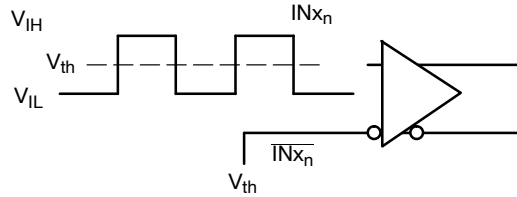
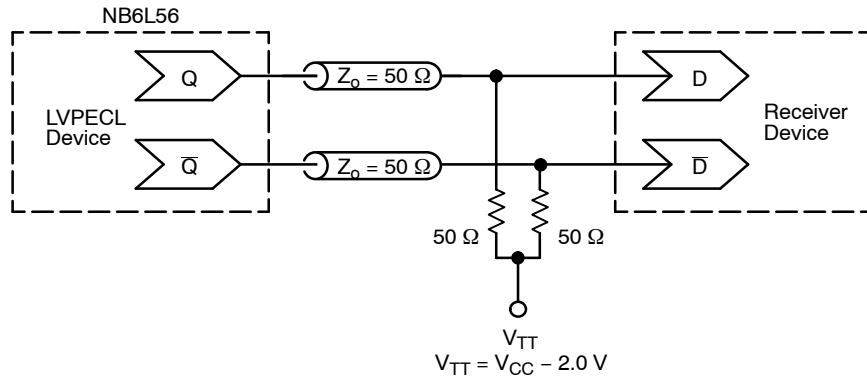

Figure 5. Differential Input Driven Single-Ended
Figure 16. Typical Termination for LVPECL Output Driver and Device Evaluation
DIFFERENTIAL INPUT DRIVEN SINGLE-ENDED (Note 6) (Figures 5 and 6)
- Outputs evaluated with 50 Ω resistors to $V_{TT} = V_{CC} - 2.0$ V for proper operation (See Figure 16).
8. Differential 50% duty cycle at $V_{INPPmin}$ clock source. Outputs evaluated with 50 Ω resistors to $V_{TT} = V_{CC} - 2.0$ V (See Figure 16). Input crosspoint to output crosspoint for INxn/INxn to Qx, Qx; 50% input to output crosspoint for SELx to Qx, Qx. See Figures 5, 10 and 11.